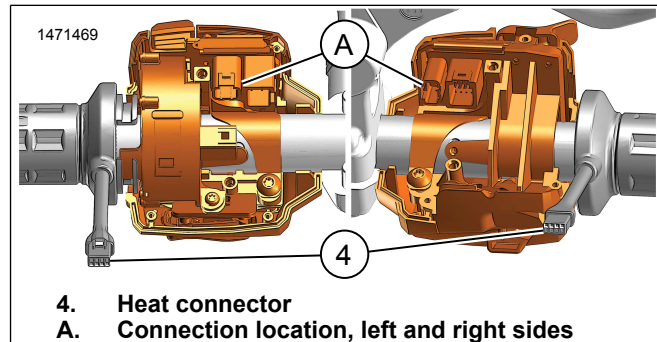

Figure 3. Heat Connector Locations
- c. See Figure 3. Disconnect heated grip connector (A).
- a. See Figure 3. Disconnect heated grip connector (A).
- a. See Figure 3. Connect heat connector (4) in location (A).
3. See Figure 3. Connect heat connector (4) in location (A).